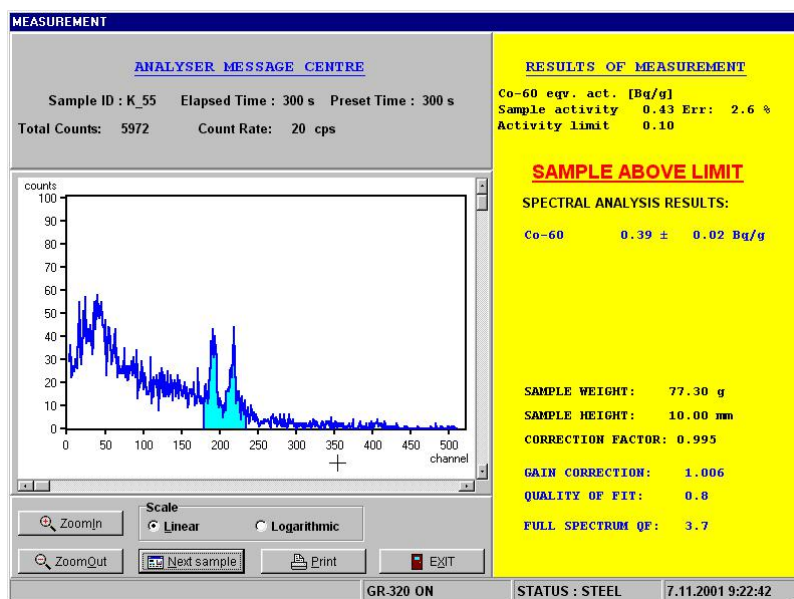

Fig. 26
- If the alarm conditions are still not met at the 60-second point or user does not exit the measurement, the sample accumulation continues and is finally terminated at the final 300 second set point regardless of the limits – see Fig. 26
- The spectrum looks like on the figure 26 – it means two peaks are visible in the highlighted region. You are sure the Co-60 activity of the sample is Co-60 equivalent activity. If no peak is in the highlighted area, no Co-60 is present or the time of measurement is too short. If some peak appears outside of the highlighted area, some other nuclide is present. Ask RSO for help.
- There is no message UNIDENTIFY ISOTOPE PRESENT in the right down corner of the screen and the QUALITY OF FIT (QF) is near to 1.0, usually lower than 5. If the message is present check if conditions for measurement are O.K. (the container is full of the sample, its weight is between 100 g and 140 g, sample is in the center of the sample chamber, time of measurement is 300 seconds) and repeat the measurement.